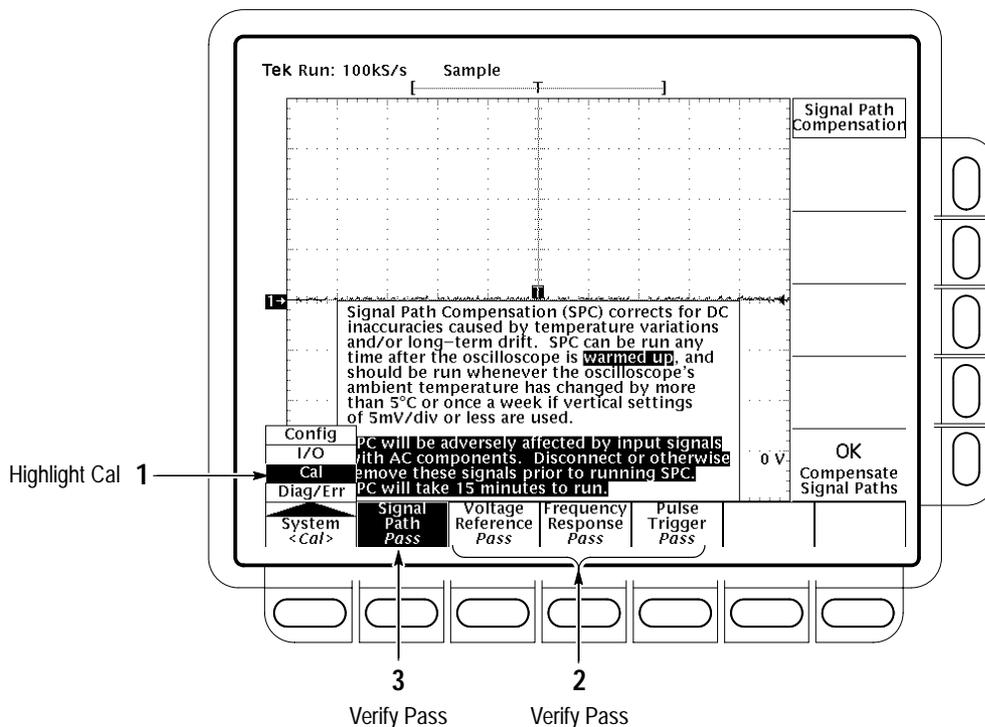

Figure 4–2: Verifying Adjustments and Signal-Path Compensation
- Refer to Figure 4–1: “Main menu” refers to the menu that labels the seven menu buttons under the display; “side menu” refers to the menu that labels
- Highlight **Cal** in the pop-up menu by repeatedly pressing the main-menu button **System**. See Figure 4–2.
- Verify that the word *Pass* appears in the main menu under the following menu labels: **Voltage Reference**, **Frequency Response**, and **Pulse Trigger**. See Figure 4–2.
- h. *Confirm signal-path compensation returns passed status:* Verify that the word *Pass* appears under **Signal Path** in the main menu. See Figure 4–2.
- a. *Hook up the signal source:* Install the probe on **CH 1**. Connect the probe tip to **PROBE COMPENSATION SIGNAL** on the front panel; connect the probe ground (typically black) to **PROBE COMPENSATION GND**. If using a P6243 or P6245 probe, you may want to attach a Y-lead connector and two SMD KlipChips as shown in Figure 4–3.
- The vertical scale readout for the channel under test shows a setting of 200 mV, and a square-wave probe-compensation signal about 2.5 divisions in amplitude is on-screen. See Figure 4–1 on page 4–3 to locate the readout.
a. *Hook up the signal source:* Install the probe on **CH 1**. Connect the probe tip to **PROBE COMPENSATION SIGNAL** on the front panel; connect the probe ground to **PROBE COMPENSATION GND**. See Figure 4–3 on page 4–8.